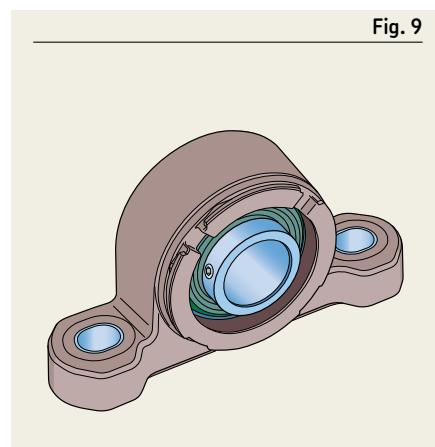

Fig. 9
1 Remove any burrs on the shaft with emery cloth or a fine file, wipe clean with a cloth. Depending on loads and speeds, define the appropriate shaft tolerance from **tables 1** and **2**, and check the shaft diameter. Mount any components that are on the shaft between the two SKF Food Line ball bearing units. Ensure the supporting surface is flat. The flatness should be within the ISO IT7 tolerance grade and the roughness should be $R_a \leq 12,5 \mu\text{m}$. If the housing requires shims or adjustment, the shims must extend the full length and width of the base (**fig. 9**).
- 4 Mount the other SKF Food Line ball bearing unit on the other end of the shaft following the same procedure as the first bearing, as shown in **fig. 9** to **11**.